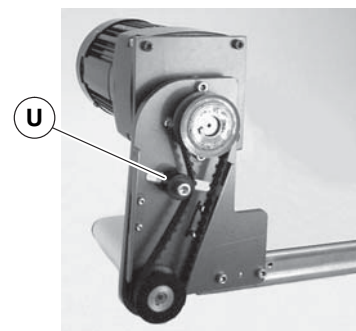

Figure 14
2. Loosen tensioner (Figure 14, item U).
5. Loosen tensioner (Figure 14, item U).